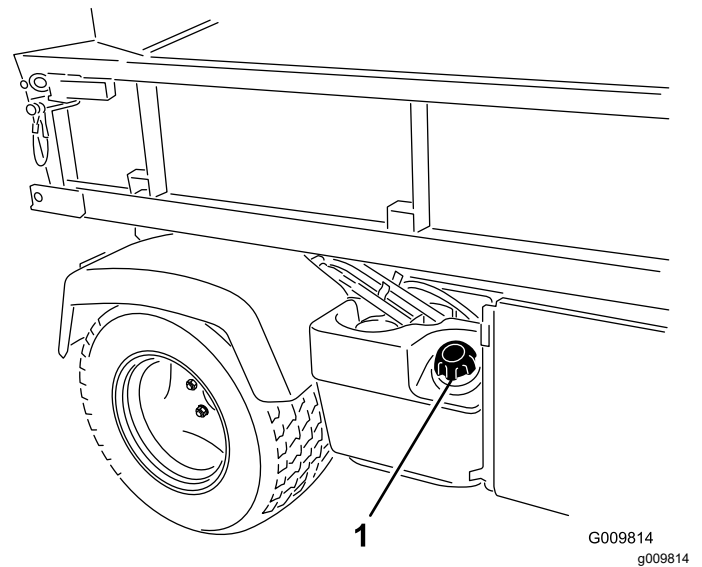

Figure 13
2. Remove the fuel-tank cap (Figure 13).